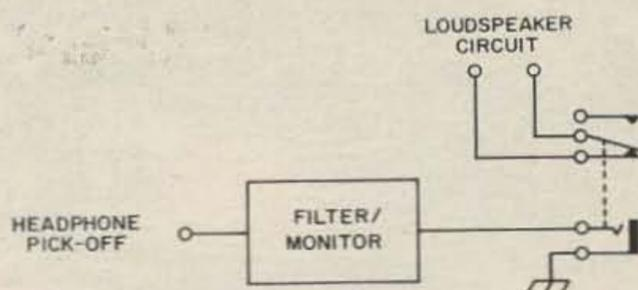

Fig. 4. A phone jack with additional switching circuit may be substituted for the regular phone jack.
The unit can be wired into a transceiver so that it can be switched in and out of audio chain in the receiver. A still simpler, "no-holes" approach for those who only use headphones on CW and who have a medium or high impedance headphone jack on their transceiver is to replace the headphones jack with a multiple circuit unit, such as shown in Fig. 4. Plugging the headphones in the jack disables the loudspeaker and the filter and monitor are in the circuit ready for CW operation.
Fig. 4. Coverage of the Converter Converter. If the receiver tunes 0.50-1.50 MHz, there is no gap in coverage. If the receiver tunes 0.52-1.52 MHz, there is a 40 kHz gap at (1) and (3) and overlap at (2). Of course, if  $X_B$  and  $X_D$  are 40 kHz low, there is no gap. Coverage is 11.5-19.5 MHz. The coverage WIOOP wanted was 12-12.4, 14-14.4 and 16-15.5 MHz (the last backwards, for a 220 MHz converter with 236 MHz local oscillator.)